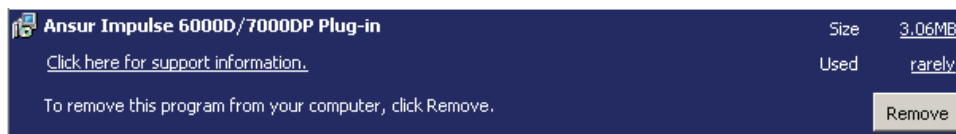

Figure 2-2. Removing Impulse 6000D/7000DP Plug-In
2. Locate and select the entry named **Ansur Impulse 6000D/7000DP Plug-in**, as shown in Figure 2-2.